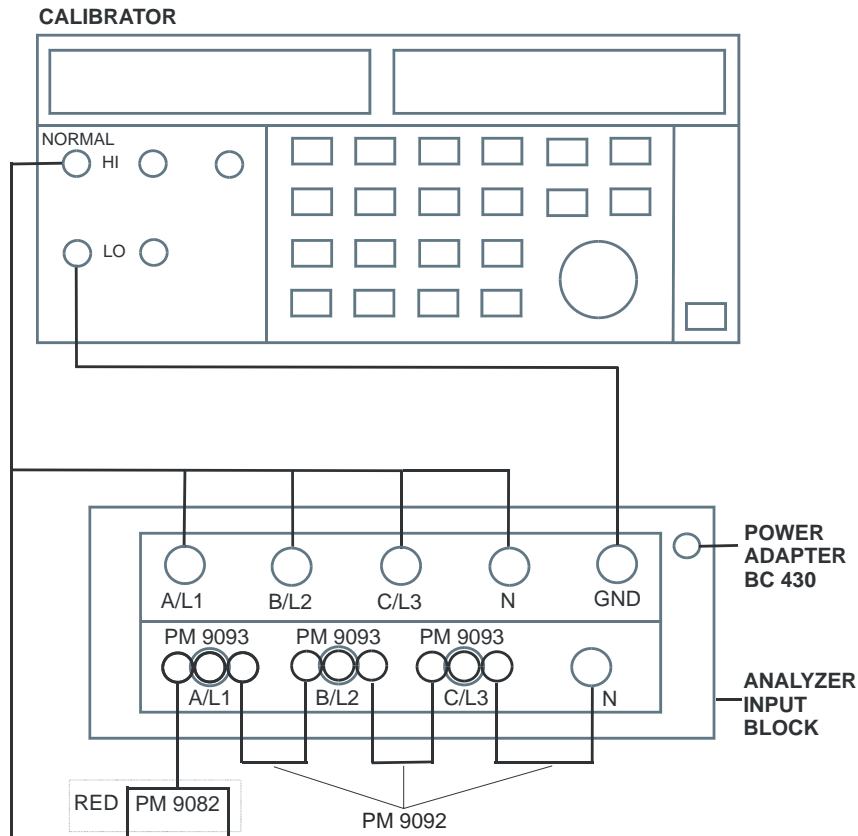

Figure 5-3. Offset, Low Voltage, and Current Gain Adjustment
5. Connect the Analyzer to the Calibrator as shown in Figure 5-3.
2. Keep the Analyzer connected to the Calibrator as shown in Figure 5-3.
4. Connect the Analyzer to the Calibrator as shown in Figure 5-3.